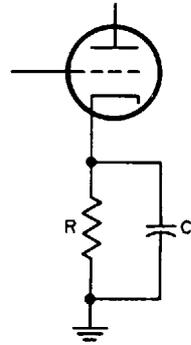

Fig. 39-10. The cathode-resistor method for obtaining grid bias.
**Grid-Bias Voltage.** It might be well to say a few words here about how we obtain the *grid-bias voltage*, which is so important in determining how the amplifier tube will operate. One method is the *cathode-resistor bias method* (Fig. 39-10). Here a resistor, shunted by a fixed capacitor, is connected to the cathode of the tube. The voltage drop across the resistor supplies the necessary grid-bias voltage (see Chap. 20).
obtained by means of the *cathode-resistor bias* method (Fig. 39-10), described in Chapter 20. In the transmitter, a favorite method for obtaining the grid-bias voltage is the *grid leak-capacitor* method (Fig. 39-21A), described in Chap. 15. This method is used only for class B or C amplifiers—that is, only where there is a flow of grid current owing to the fact that the grid has been driven positive. Current flowing through the resistor R causes a voltage drop, and it is this that biases the grid of the tube. Capacitor C